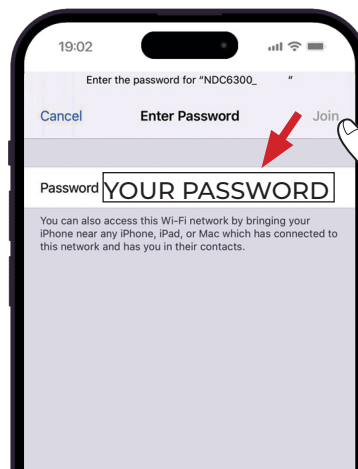

Fig. 18
- Enter the operator's password and click "Join". (Fig. 18)